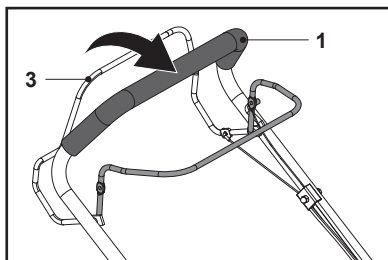

Fig. 14
1. Push the self-propelling lever (3) forward and hold it against the grip handle (1) to engage the rear wheels (23) (Fig. 14).
2. Release the self-propelling lever (3) to disengage the rear wheels (23).